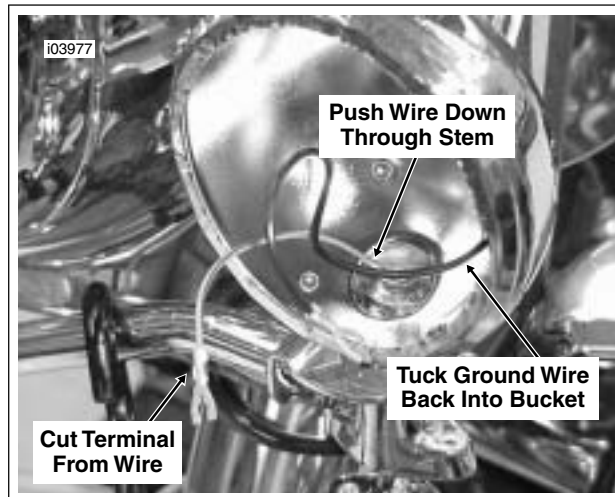

Figure 8-14. Modify Existing Wiring
6. See Figure 8-14. Locate the passing/pursuit lamp power wire (gray/black) and cut the terminal off.